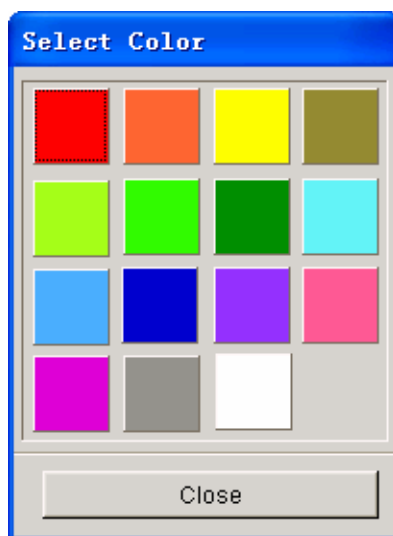

Figure 4.1.2 Select Color
3. Select the COLOR button to display the SELECT COLOR window allowing the user to choose a color. See Figure 4.1.2 for available part colors.